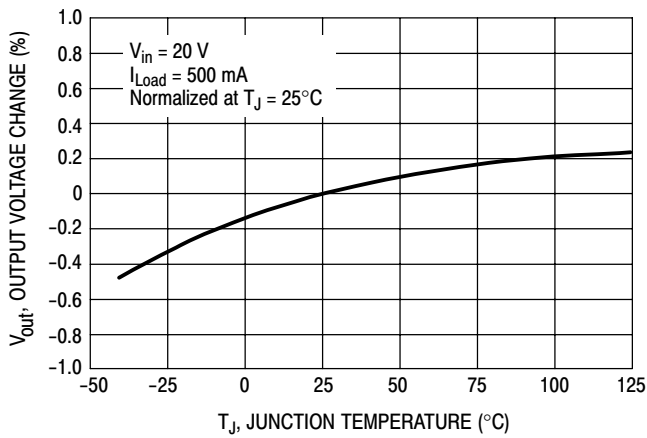

Figure 2. Normalized Output Voltage
1. Programming Output Voltage To select the right programming resistor R1 and R2 value (see Figure 2) use the following formula: $V_{out} = V_{ref} \left(1.0 + \frac{R2}{R1} \right) \quad \text{where } V_{ref} = 1.23 \text{ V}$ Resistor R1 can be between 1.0 k and 5.0 k Ω . (For best temperature coefficient and stability with time, use 1% metal film resistors). $R2 = R1 \left(\frac{V_{out}}{V_{ref}} - 1.0 \right)$	1. Programming Output Voltage (selecting R1 and R2) Select R1 and R2: $V_{out} = 1.23 \left(1.0 + \frac{R2}{R1} \right) \quad \text{Select } R1 = 1.8 \text{ k}\Omega$ $R2 = R1 \left(\frac{V_{out}}{V_{ref}} - 1.0 \right) = 1.8 \text{ k} \left(\frac{8.0 \text{ V}}{1.23 \text{ V}} - 1.0 \right)$ $R2 = 9.91 \text{ k}\Omega, \text{ choose a } 9.88 \text{ k metal film resistor.}$